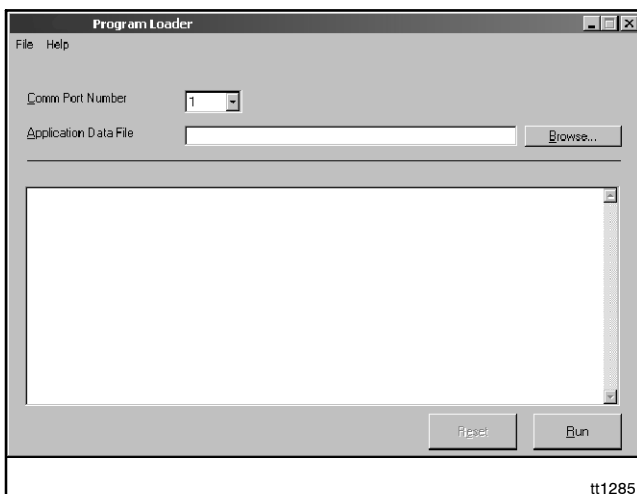

Figure 23 Program Loader Screen
2. Enter the number of the computer's COM port (number 1 through 16) that is connected to the controller through the communication cable. See Figure 23.